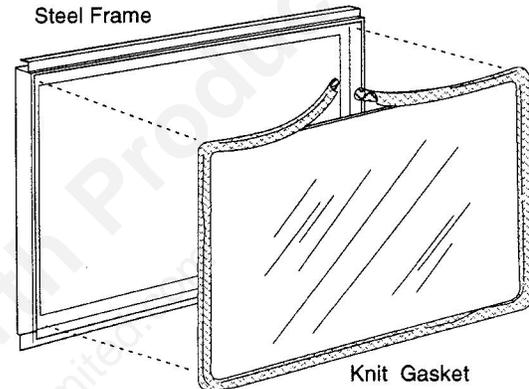

Figure 51. Remove the glass from the frame.
2. If you are replacing old gasket material, lift the glass panel out of the frame and remove the old gasket material from around the edge. Fig. 51.